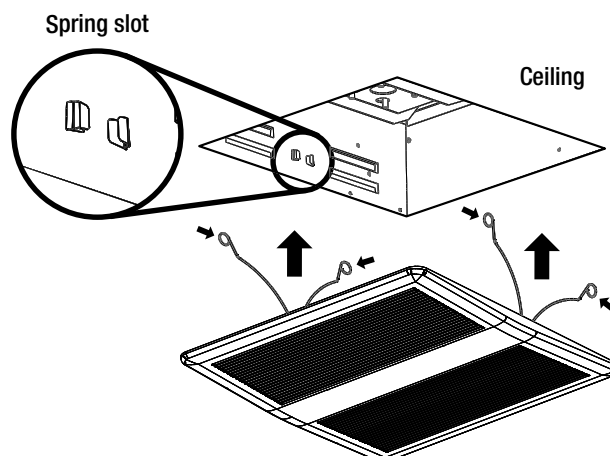

Fig. 20
- Squeeze the springs on the grille together, and insert the springs into the slots of the housing assembly. Firmly push the grille up against the ceiling. See figure 20.